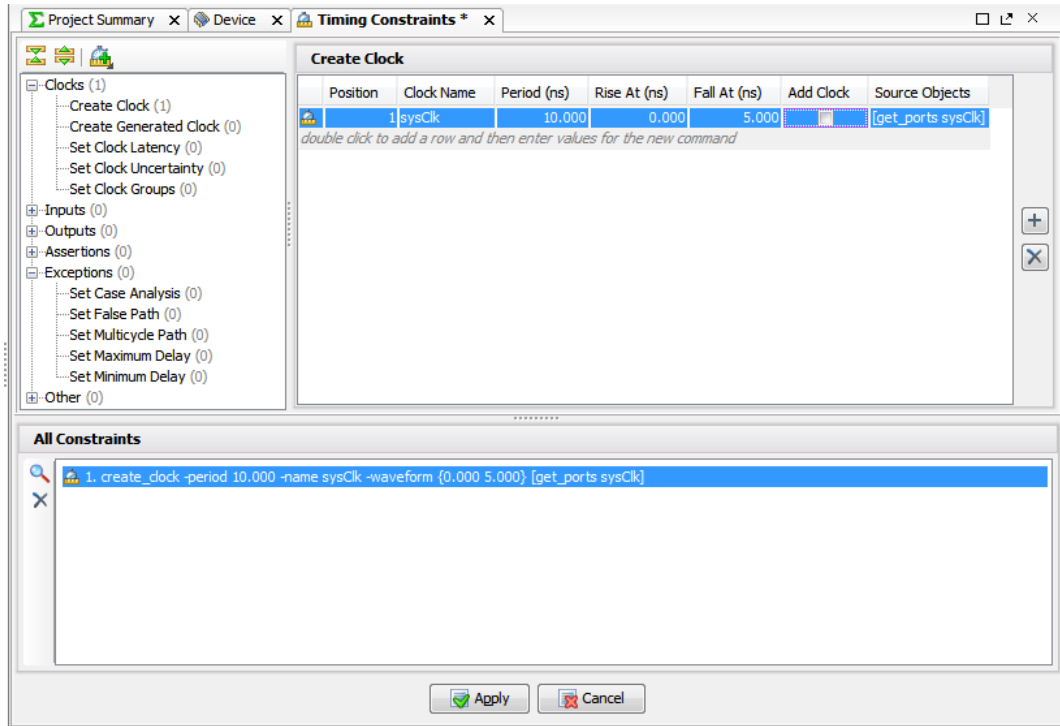

Figure 11: The Added sysClk Constraint
- g. Click **OK** to close the Create Clock wizard, and create the `sysClk` clock constraint as shown in Figure 11: The Added sysClk Constraint.
You can create other timing constraints following the process described in Step 3: Creating Clock Constraints. You can also enter constraints directly into the spreadsheet of the Timing Constraints window, as shown in Figure 11: The Added sysC1k Constraint.